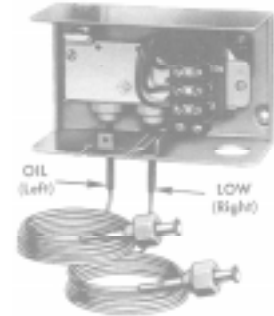

Fig. 1 -- The P12AA Differential Pressure Control with the cover removed.
2. Purge all tubing and lines before connecting the pressure controls. When the P12 is used as an auxiliary refrigeration oil failure cutout control, connect the oil pressure line to the pressure connector labeled "OIL" and the crankcase line to the pressure connector labeled "LOW." (See Fig. 1.)